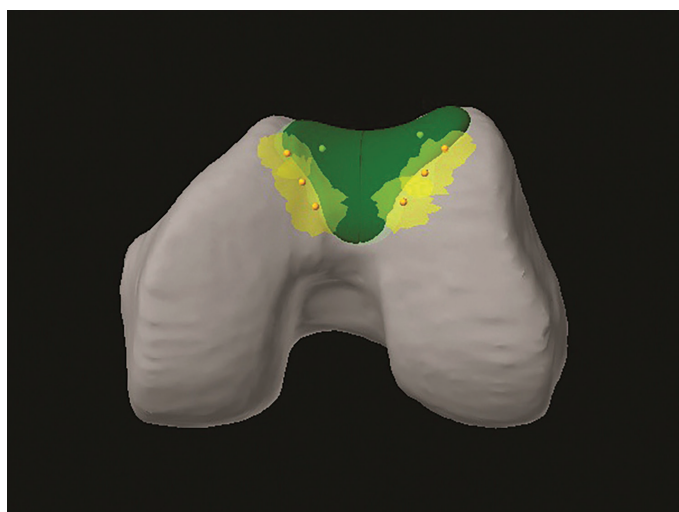

Figure 10
3. Distally, in the sagittal and coronal quadrants, the virtual implant should be flush (or slightly recessed) to the cartilage. The mapped cartilage is represented as yellow lines. Adjust superior/inferior and varus/valgus of the implant to create a smooth transition from the distal-lateral edge of the component to the lateral cartilage of the femoral condyles. The preferred varus/valgus setting is 0-2° varus (figures 10, 11a and 11b).